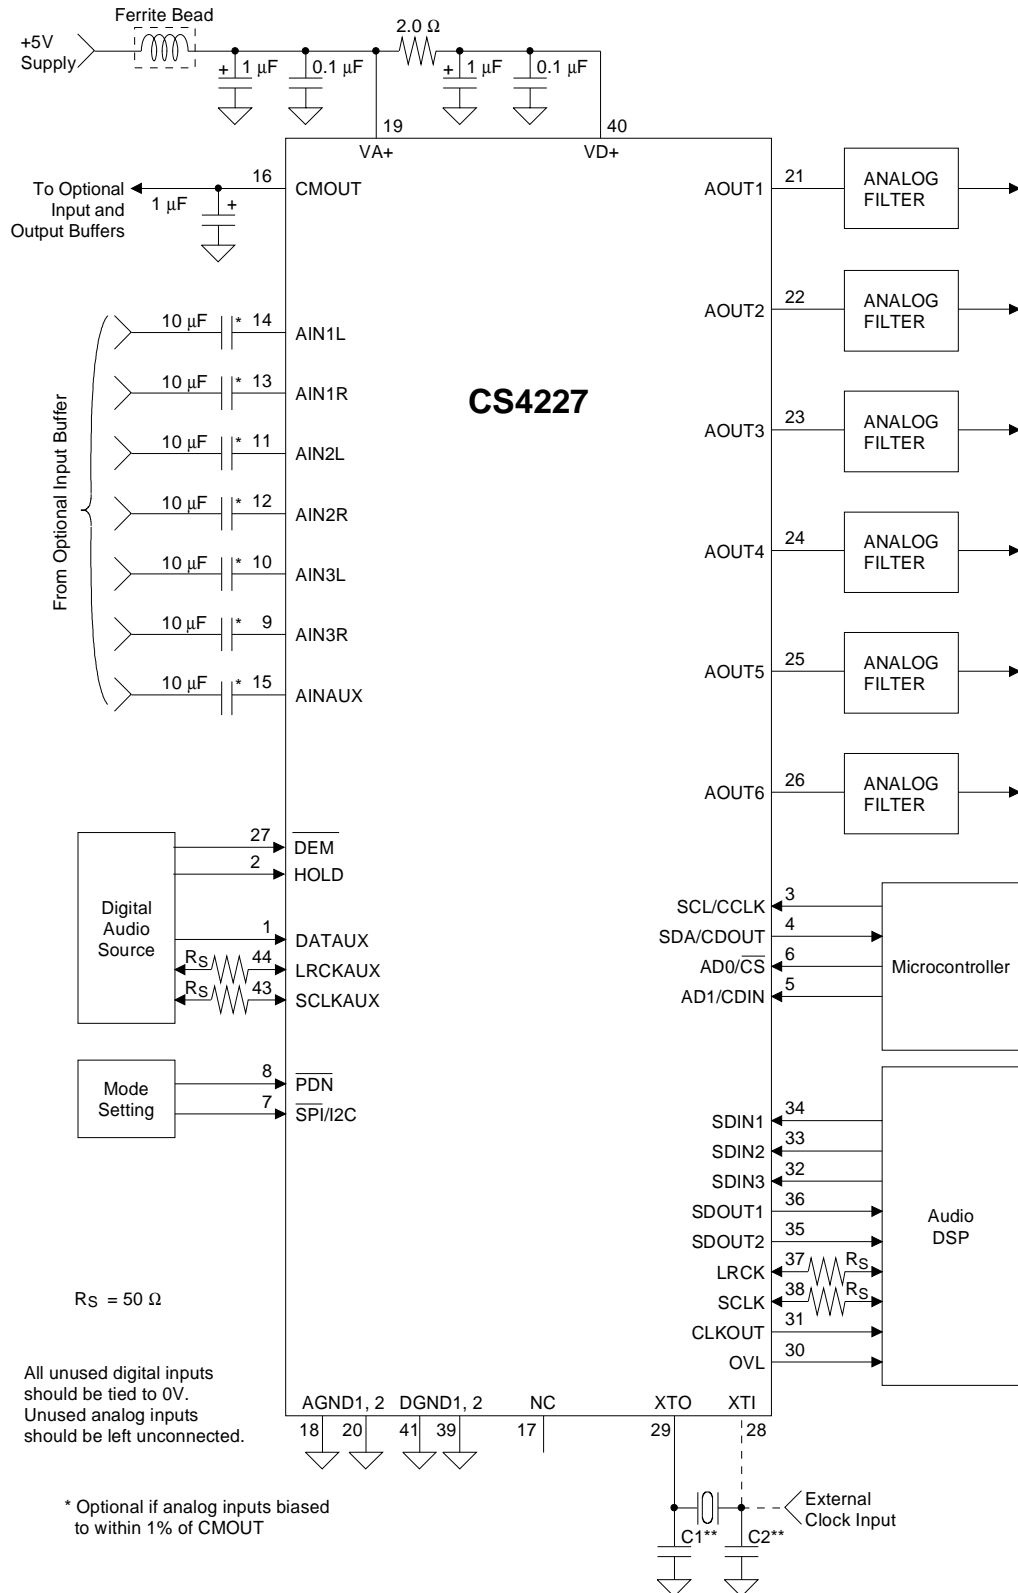
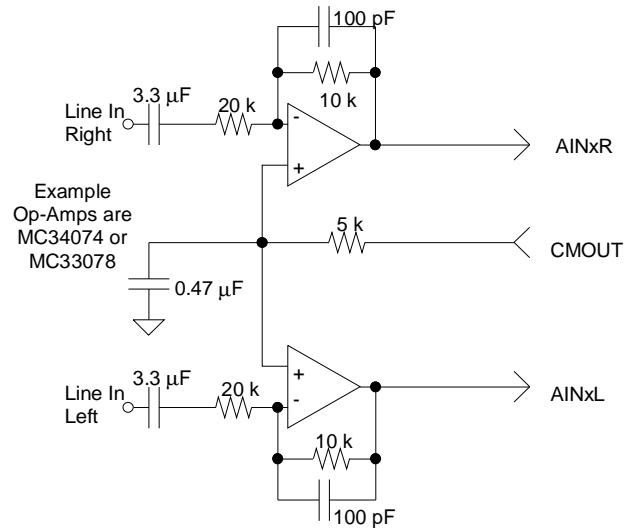

Figure 5. Recommended Connection Diagram
Figure 6. Optional Line Input Buffer
AIN1R, AIN1L, AIN2R, AIN2L, AIN3R, AIN3L and AINAUX are the line level input pins (See Figure 5). These pins are internally biased to the CMOUT voltage (nominally 2.3 V). A 10 μ F DC blocking capacitor allows signals centered around 0 V to be input. Figure 6 shows an optional dual op amp buffer which combines level shifting with a gain of 0.5 to attenuate the standard line level of 2 V_{rms} to 1 V_{rms} . The CMOUT reference level is used to bias the op-amps to approximately one half the supply voltage. With this input circuit, the 10 μ F DC blocking caps in Figure 5 may be omitted. Any remaining DC offset will be removed by the internal high-pass filters.
The CS4227 requires a high frequency master clock to run the internal logic. The clock enable bit (CE) must be set to 0 after power-up of the device (see Power-up/Reset/Power Down Mode section). A high frequency crystal can be connected to XTI and XTO, or a high frequency clock can be applied to XTI. This high frequency clock can be 256 Fs, 384 Fs or 512 Fs; this is set by the CI0/1 bits in the Clock Mode Byte (#1). When using the on-chip crystal oscillator, external loading capacitors are required (see Figure 5). High frequency crystals (>8 MHz) should be parallel resonant, fundamental mode and designed for 20 pF loading (equivalent to 40 pF to ground on each leg).